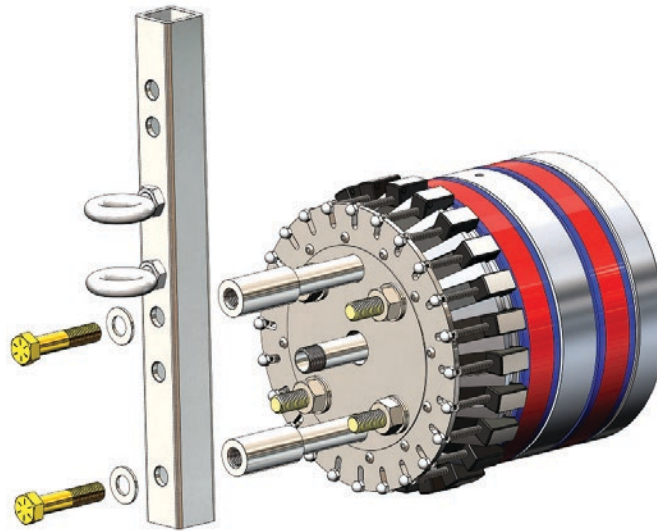

Figure 15: Aligning and fastening *Telescoping Lifting Attachment* on to *Lifting Standoffs*
- Line up the holes on the *Telescoping Lifting Attachment*(22) with the internally threaded holes on the *Lifting Standoffs*(23). Fasten the *Telescoping Lifting Attachment*(22) on to the *Lifting Standoffs*(23) with the provided *Lifting Device Bolts*(24) and *Washers*(25) (see Figure 15).